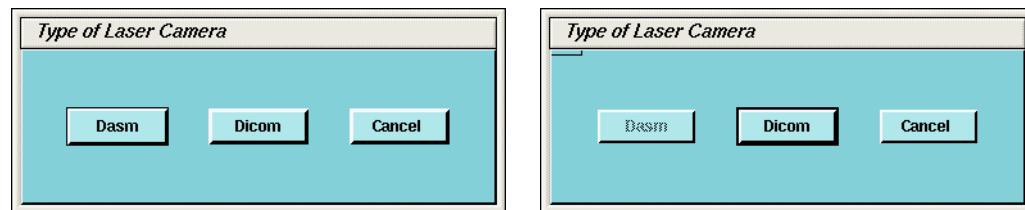

Figure 5-3 Dialog Box for camera Type (with and without DASM)
- b.) A dialog window for the camera type (DASM/DICOM) appears. If no DASM is detected during the OC boot, the DASM button will be disabled (Figure 5-3). If a DASM is present and has not been detected, reboot the OC and run the camera configuration tool again.